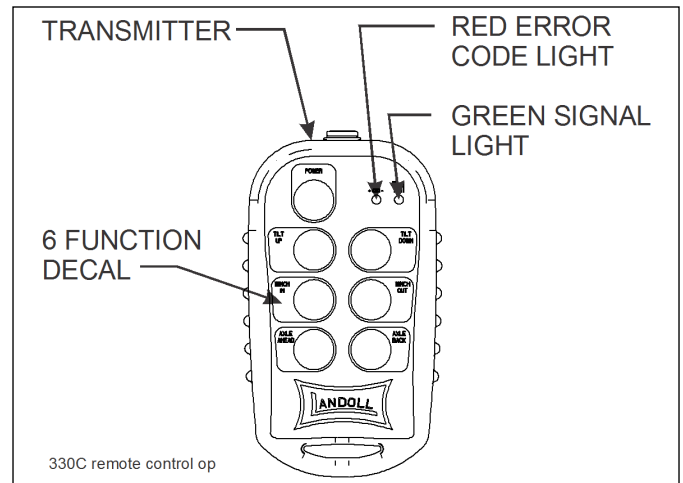

Figure 3-10: Remote Control Transmitter
1. A wireless six function radio remote control is available (See Figure 3-10.)